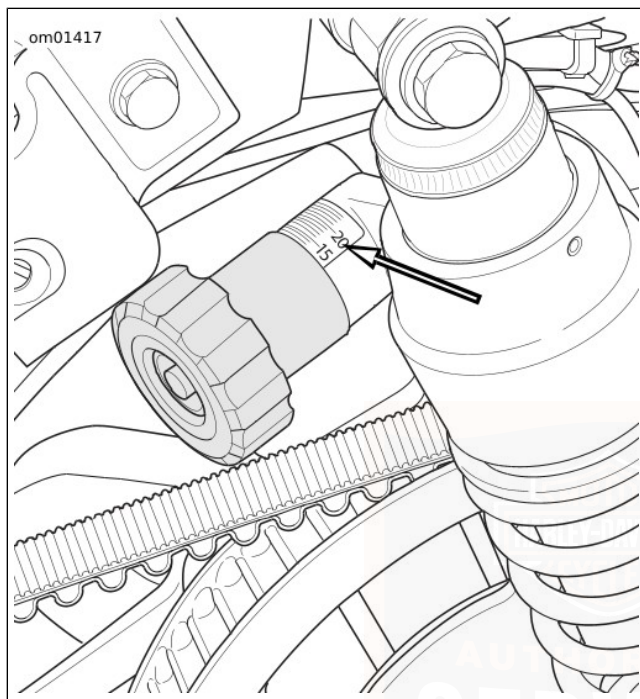

Figure 14. Preload Adjustment Knob
2. See Figure 14. Turn the adjustment knob (2) on the left shock fully CCW to MIN.